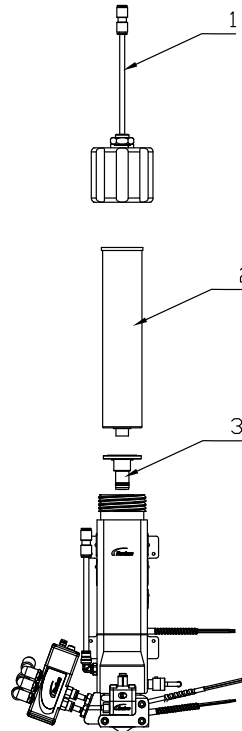

Figure 14 Loading an Applicator – PURJet 300XT
1. Load an adhesive cartridge in the applicator as follows (See Figure 14):
- a. Unscrew the adhesive cartridge end cap (1).